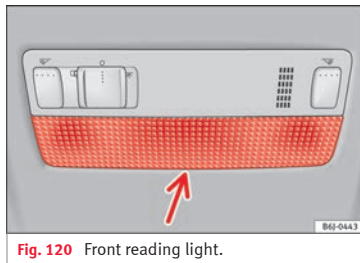

Fig. 120 Front reading light.
- Insert a fine screwdriver between the casing and the glass » **Fig. 120.**